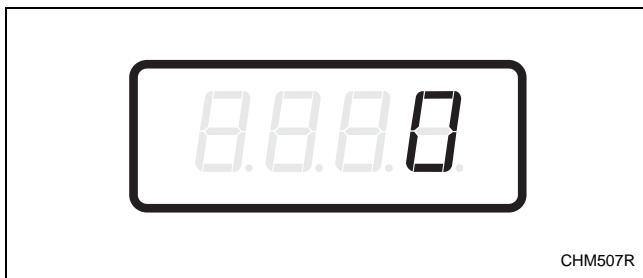

Figure 15
2. When “SA11” appears in the display, press the START (enter) keypad. There are five digits in the Special Vend A Normal/Hot Vend Price. The fifth digit will appear in the display and will flash one (1) second on and one (1) second off. Refer to *Figure 15*.